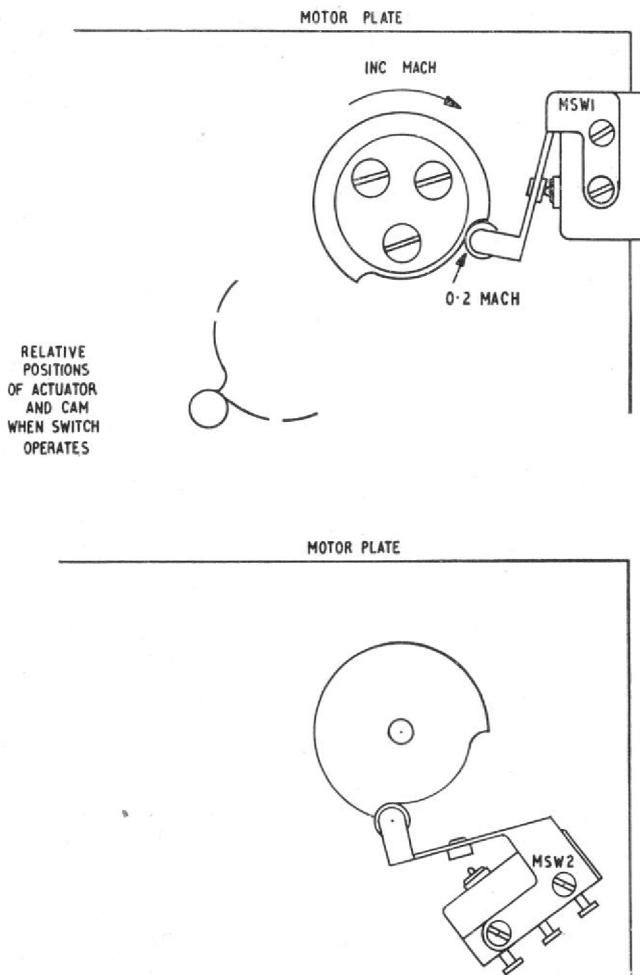

Fig. 7. Adjustment of Mach No. output gearbox microswitches MSW1 and MSW2 from underside
55. Connect the multimeter set to the ohms range between pins 5 and 16 of the gearbox tag-board. Set T4 test set, Type 9B to 3557 (0.2M) and check that the servo comes to rest with the actuator of MSW1 about to run up to the high part of the cam (fig. 7), and that the multimeter indicates an open circuit.
57. Increase the setting of T4 until the multimeter registers a short circuit, i.e. MSW1 is closed, and note the relative positions of the cam and actuator which should be as shown in the sketch in fig. 7. If incorrect loosen the two 8 B.A. screws fixing the microswitch to the motor plate and move switch away from or towards the cam as required. If sufficient movement cannot be obtained on the switch, the actuator can also be moved. Tighten the switch fixing screws.
62. Set test set, Type 9B T4 to 4036; G1 should come to rest at a reading of 99883. Check that the relative positions of the cam and microswitch actuator of MSW2 are as shown in fig. 7. If necessary release the cam clamp and set the cam and actuator to this position.